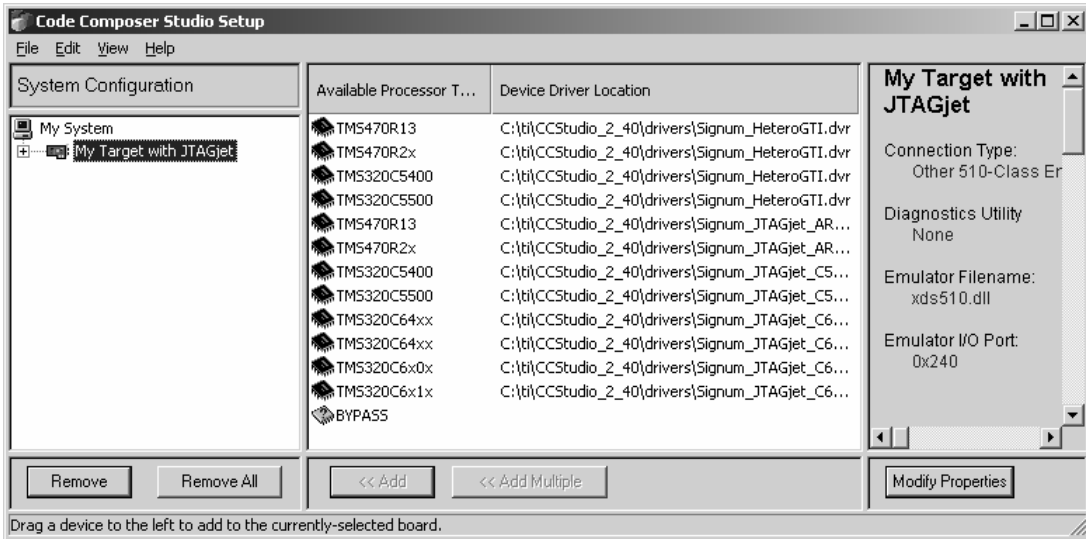

FIGURE 27 Adding processors and bypass devices to configure a target for use with the JTAGjet emulator.
4. In the System Configuration pane of the Code Composer Studio Setup dialog box, click “My Target with JTAGjet” (Figure 27). Configure your target device list by adding processor or bypass devices from the middle pane.